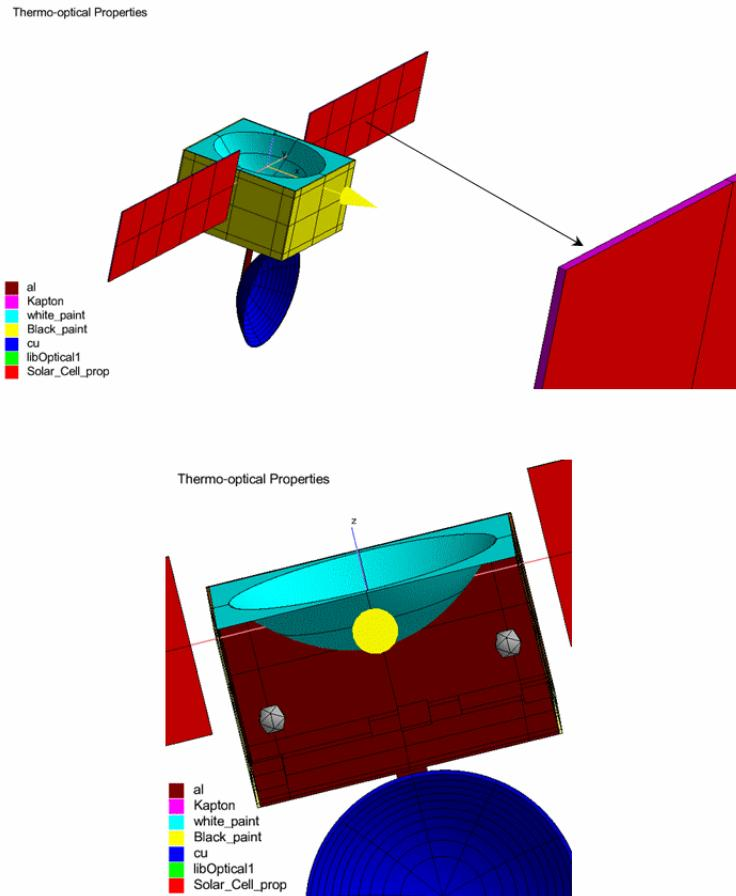

Figure 3-2 Model 2 optical coatings
Two Non-Geometric Thermal Nodes (NGN) must be created in order to set the BC on the boxes and there are two ways of doing this. The Solar Cells are assumed to be copper with their optical properties on each side. As the Solar Panels (SP) have a large thickness, Kapton has been added to each SP corner as shown in Figure 3-2. The structure is composed of Aluminium with Black Paint properties on the outer side and White Paint properties on the inner side. The internal boxes are aluminium with Optical Properties (OP).
Refer to Figure 3-2 to see the colour of the optical coatings.